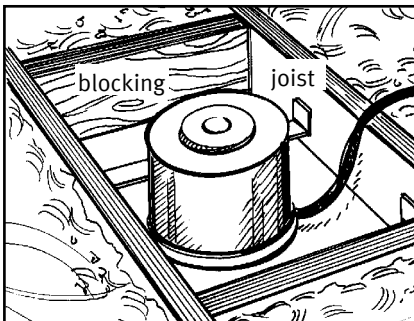

Figure 9 - Recessed light
- **Recessed lights.** Install blocking to box off light housings. Seal the blocking to the ceiling (see Figure 9).
A blower forces the insulation through a flexible hose and into the spaces between the attic floor and the ceiling of the rooms below. Before starting the machine, locate the cross bracing between the joists in the attic. Remove the floorboards above the ceiling bracing. Locate all recessed lights and other heat producers that are in the ceiling below (see Figure 9). Place blocking around these electrical fixtures. Insulation is blown under the floorboards on each side of the cross bracing and electrical guard boxes.